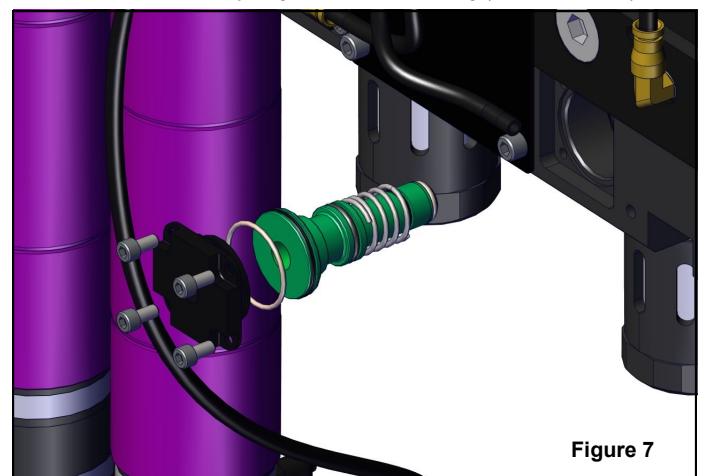

Figure 7
4. Using a 4mm hex key wrench, remove the four socket head cap screws holding the piston cover in place. *Figure 7*
6. Using a finger or a 1/2-13 bolt, remove the piston from the piston bore. Be sure to remove the piston spring. *Figure 7*
12. Using a 4mm hex key wrench, replace the four socket head cap screws holding the piston cover in place. Tighten until snug, then add 1/4 turn. *Figure 7*
13. Reconnect tubing to quick-connect fitting located on piston cover. *Figure 7*